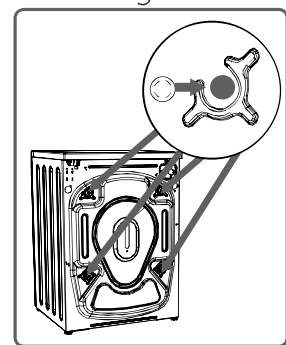

Fig4
**3:** When the transport bolts have been removed, insert the plastic transport screw taps found in the accessories ba9 into the holes. (Fig 4)